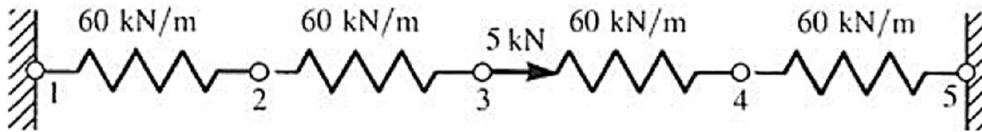

Fig. 1
- Q.1 For the spring assemblage shown in Figure 1, determine the nodal displacements, the forces in each element, and the reactions. Use the direct stiffness method. [10] CO 2 BL 1,2